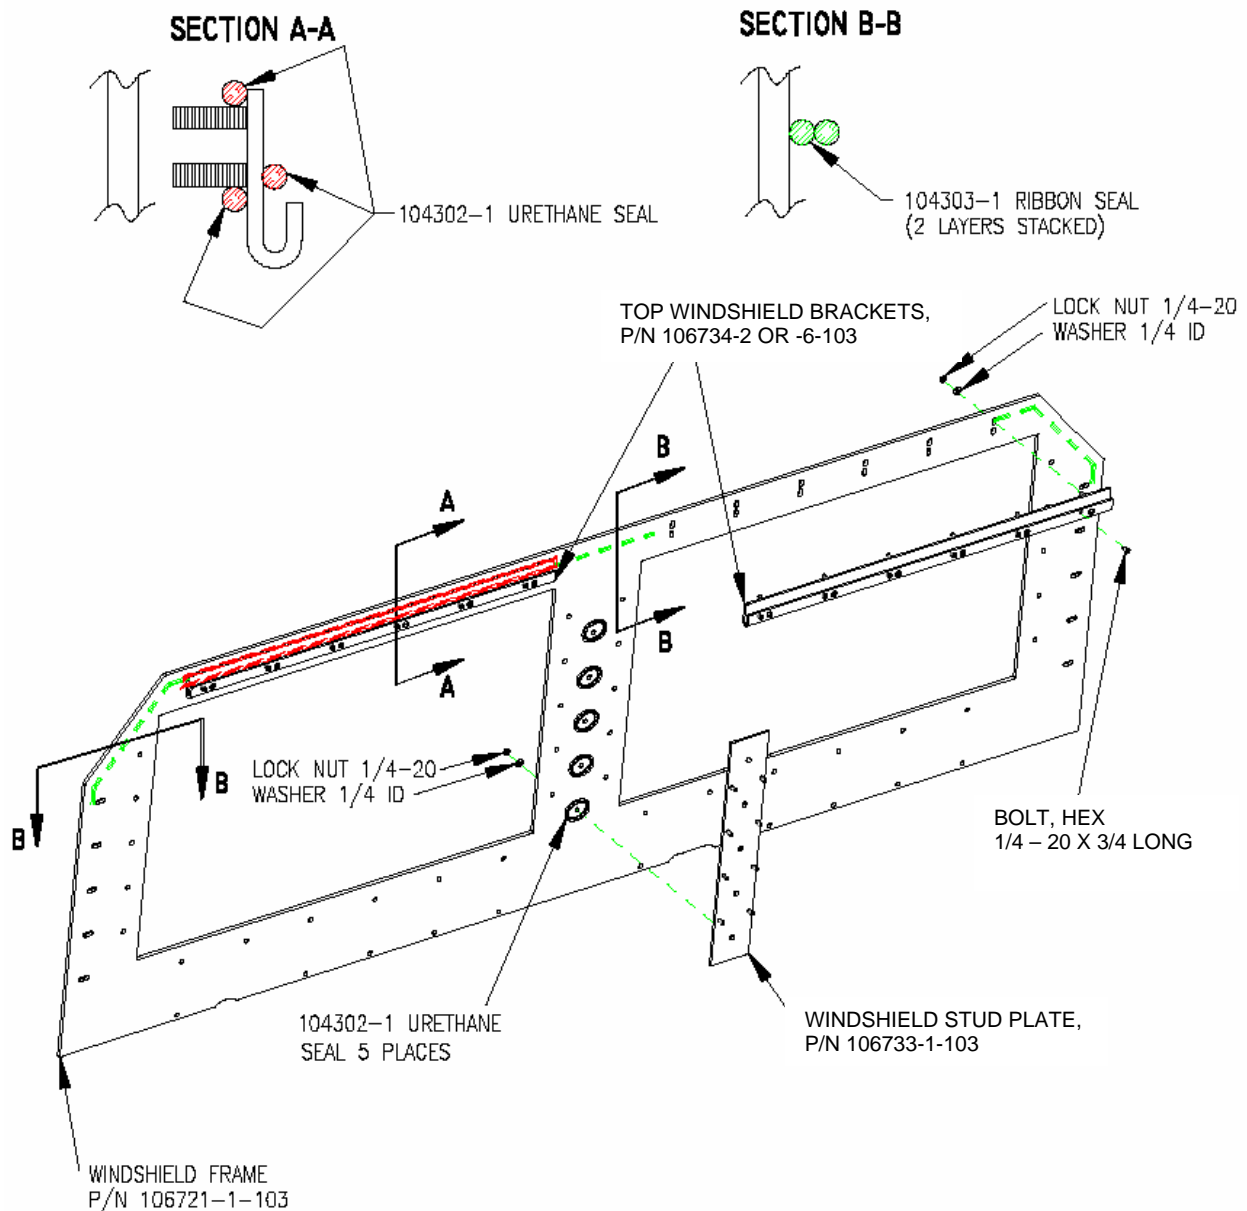

Figure 17. Windshield Frame pre-assembly.
- e) Attach the Top Windshield Brackets (P/N 106734-2 or -6-103) marked “**This Side Out**” to the **opposite** side of the Windshield Frame (P/N 106721-1-103) on the upper studs using twelve (12) 0.250-in. self-locking nuts and washers (see Figure 17). Verify that both brackets are parallel with the top edge of the windshield frame.
- f) Apply sealant (P/N 104302-1) to the windshield frame around the windshield stud plate mounting holes per Figure 17.